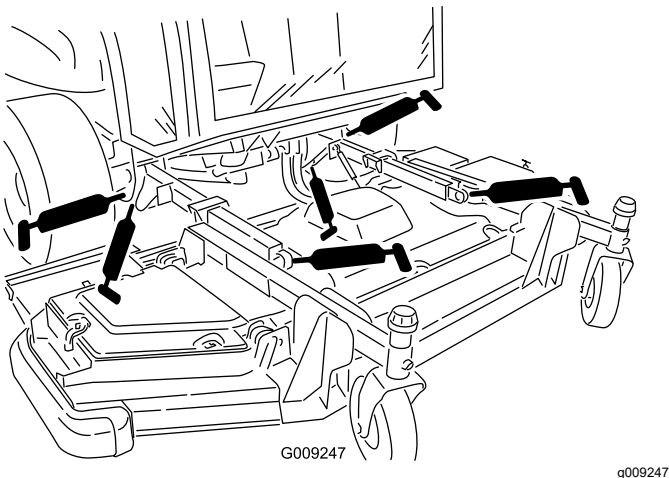

Figure 53
- 2 lift-arm bushings (Figure 53)
- 2 lift-arm-ball joints (Figure 53)
- 2 front deck lift-cylinder pivots (Figure 53)